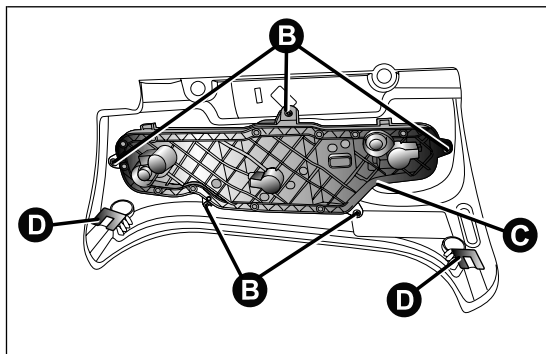

fig. 129
- ☐ undo the five screws B from their seats and remove the bulb holder C fig. 129;